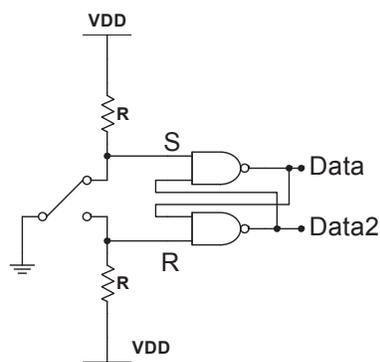
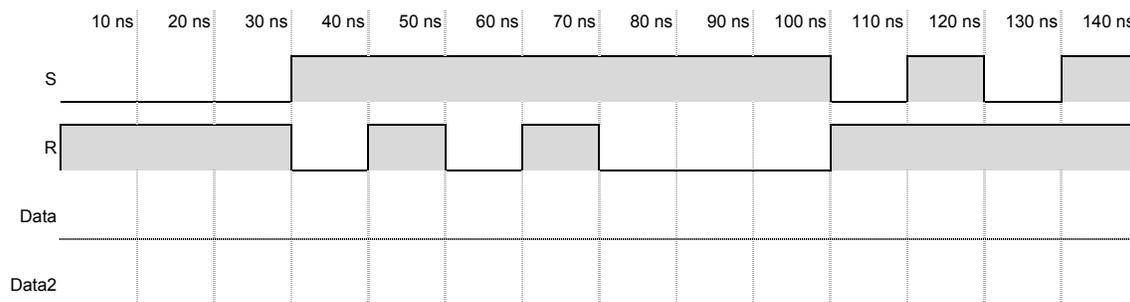

Figure 1: NAND Debounced Single-Pole Double-Throw (SPDT) Switch Circuit
Figure 2: SR Latch Sample Input for Prelab
- 1.1. The waveform shown in Figure 2 shows the values on S and R when the switch of Figure 1 is moved from the UP position to the Down position, then moved back to the UP position. Complete the timing diagram to show the expected values of Data (Top NAND gate; takes S as an input) and Data2 (Bottom NAND gate; takes R as an input) outputs.
2.2.1. Build the circuit shown in Figure 1. Use $10\text{k}\Omega$ resistors. Use a wire to simulate your switch.